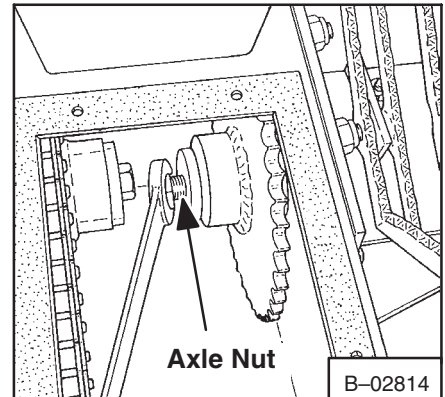

**Fig. 4-16** Removing The Steering Levers
2. Remove the steering levers (Fig. 4-16).
3. Install the inner halves of the installation tool MEL1051, used to install the axle (Fig. 4-16).